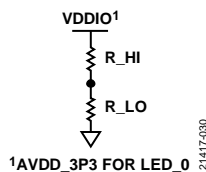

Figure 27. Hardware Configuration Pin Implementation
Hardware configuration pins are pins shared with functional pins and the voltage level on the pin is sensed and latched upon exiting from a reset. Some hardware configuration pins are multilevel sense, while others are two-level sense. Using two resistors, R_LO and R_HI (see Figure 27), four different voltage levels can be sensed, as shown in Table 19. Only MODE_1 (L) and MODE_4 (H) are relevant to the two-level sense pins and these are implemented with a 10 k Ω pull-down resistor or a 10 k Ω pull-up resistor, respectively. Note that LED_0 must be pulled up to the AVDD_3P3 rail rather than VDDIO.